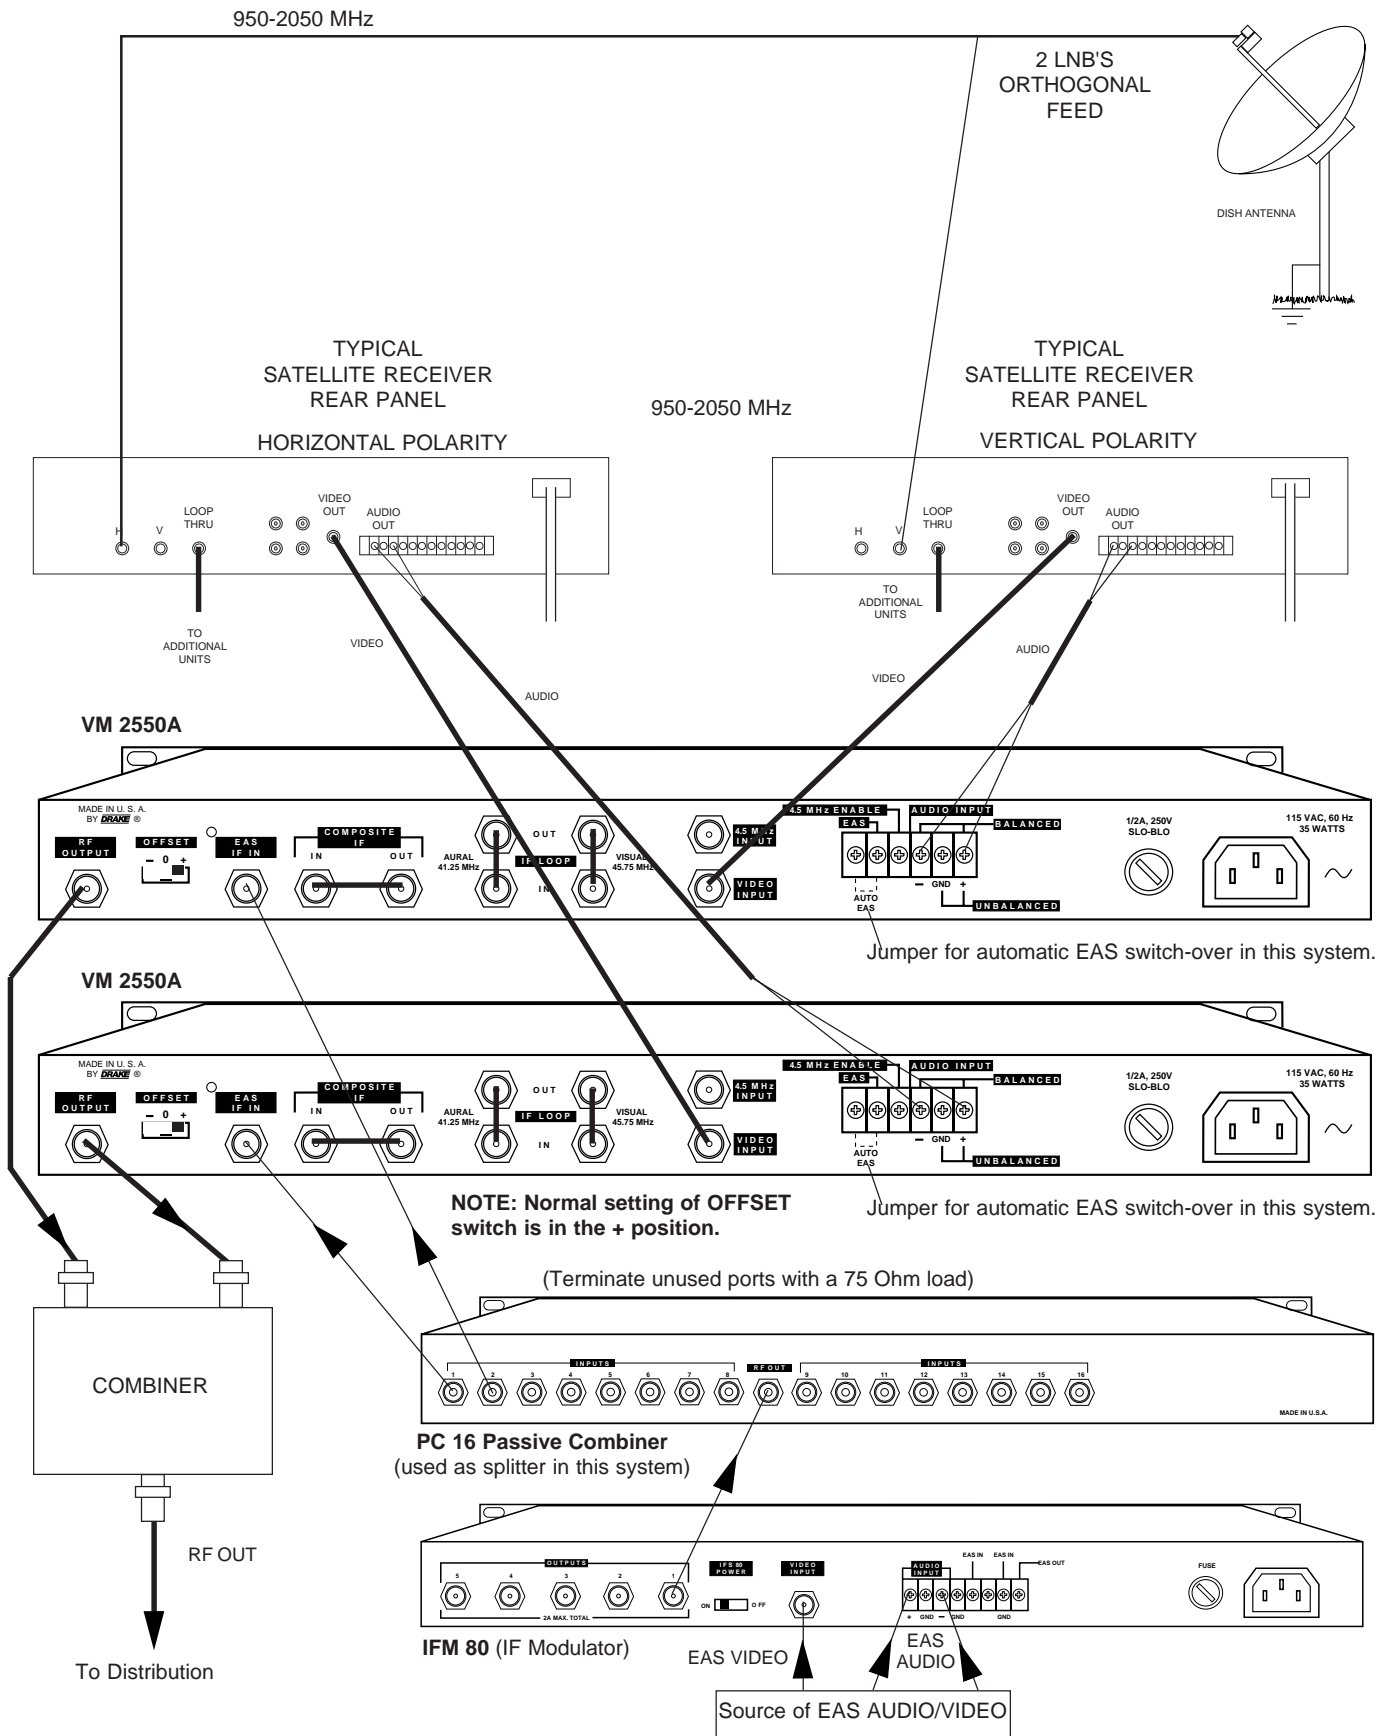

Figure 3 - TYPICAL MULTIPLE MODULATOR INSTALLATION WITH EMERGENCY ALERT SYSTEM (EAS) INPUT.
**CONNECTIONS AND CONTROLS** - All connections to and from the VM2550A are made through the rear panel. **Figure 3** shows a typical two channel installation using a typical satellite receiver as a signal source. Additional channels can be added by using additional VM2550A modulators and either multi-port combiners or combinations of two-port combiners.